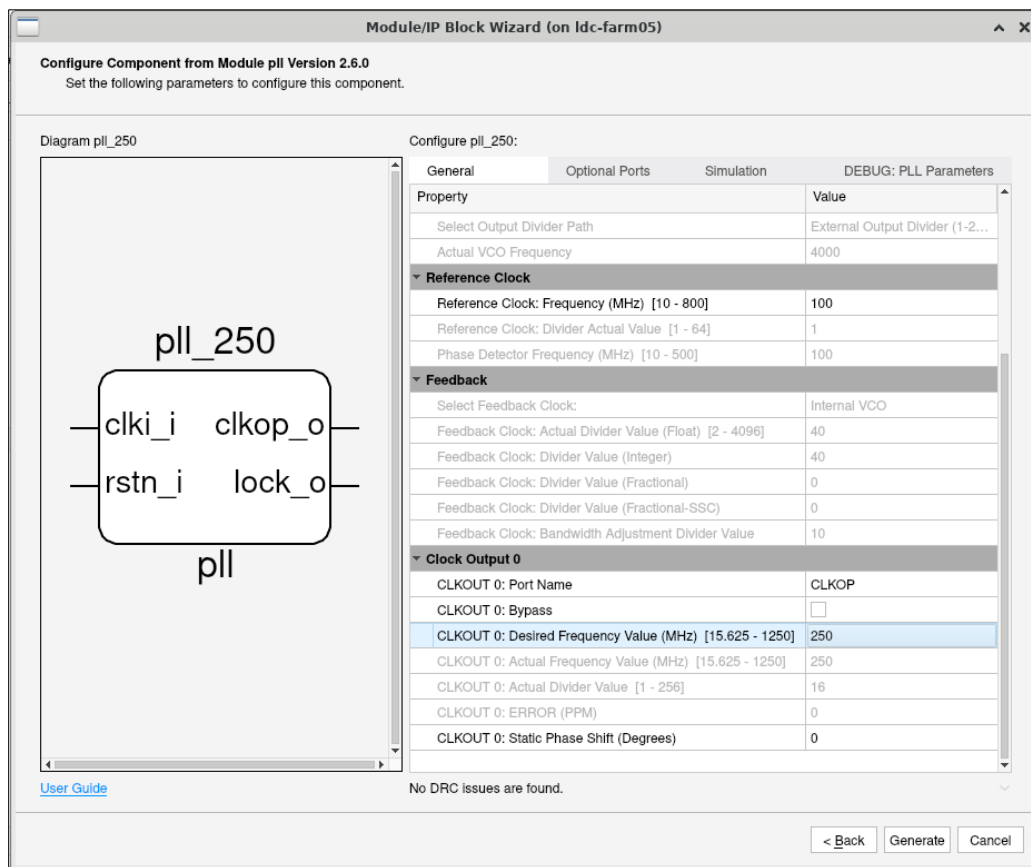

Figure 7.14. PLL IP Configuration for Input Clock of 100 MHz
- For sys_clk_i, refer to Table 4.1 on selecting the frequencies for Gen1, Gen2, Gen3, or Gen4 data rates. You can use a PLL IP to create these clocks. Refer to the PLL Module IP User Guide \(FPGA-IPUG-02063\) for instantiation and generation of PLL IP. Figure 7.14 shows the IP configuration for Gen 4 rates if using an input clock of 100 MHz.